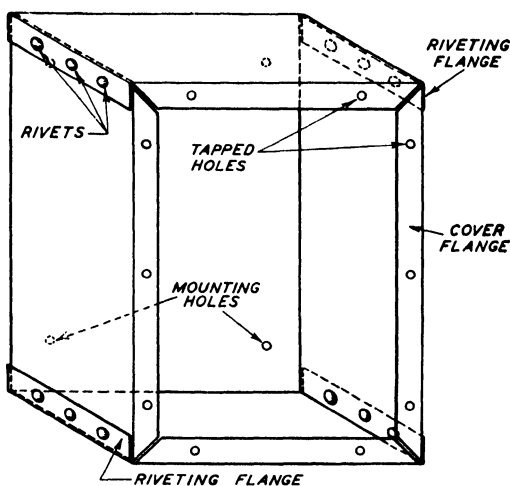

Fig. 27. Construction of Sheet Steel Pull Box
**Construction.** Before going further let us make clear just how these boxes are made and how they are laid out. Fig. 27 shows how a "screw cover" box appears to an observer looking at the open front of the box. There is a flange on all four sides at the front of the box extending inward and being usually one inch in width. It serves to stiffen the box and to provide a rest or backing for the cover plate,